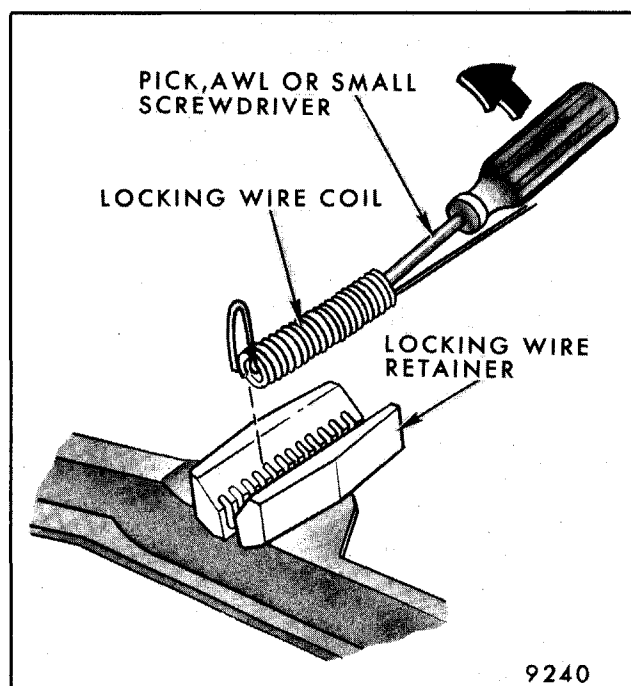
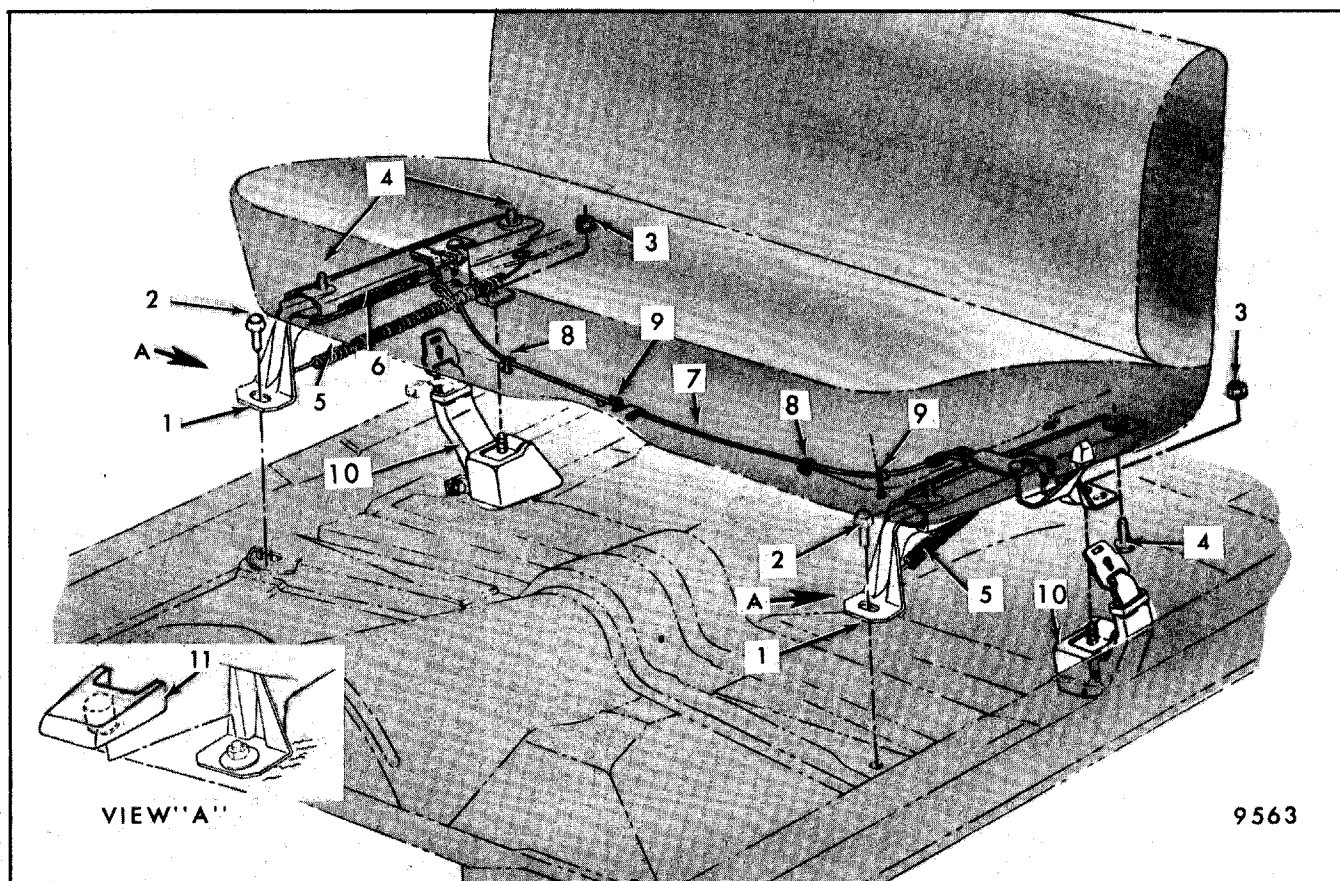

Fig. 9-7 - Manually Operated Front Seat Locking Wire Adjustment - "B and C" Styles
Fig. 9-13 - "A and X" Body Manually Operated Full Width Seat and Adjusters
The tension of the locking wire extending between manually operated adjusters can be adjusted to provide proper locking action of both adjusters, particularly the right (passenger side) adjuster. To tighten or loosen the locking wire on "A and X" style full width seats with manual adjusters, disengage locking wire tension hook from hole in seat frame and relocate hook in one of adjacent holes (see Fig. 9-13). To tighten or loosen the locking wire on "B and C" styles with manual seat adjusters use a pick or small awl inserted in coil end of locking wire to disengage locking wire from retainer at control arm of left adjuster (see Fig. 9-7). This adjustment can be used to correct the following conditions:
3. Figure 9-13 - "A" Body Manually Operated Full Width Seat
- Figure 9-13 - "A and X" Body Manually Operated Full Width Seat and Adjusters